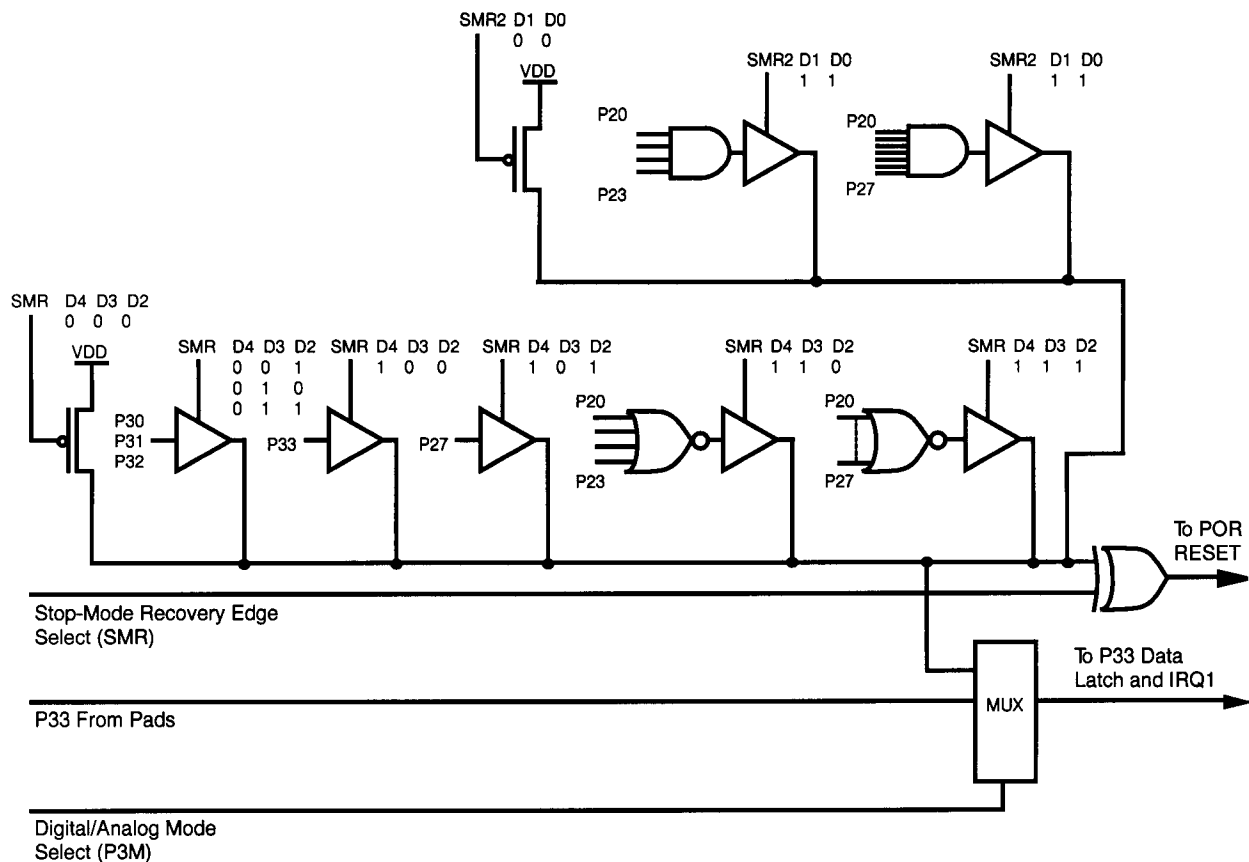

Figure 28. Stop-Mode Recovery Source
**Stop-Mode Recovery Source (D2, D3, and D4).** These three bits of the SMR specify the wake-up source of the STOP recovery (Figure 28 and Table 8). When the STOP-Mode Recovery Sources are selected in this register then SMR2 register bits D0, D1 must be set to zero.